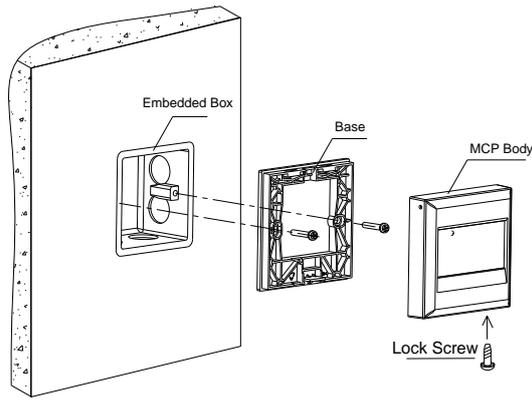

Fig. 3
**Conduit Embedded:** First install the base onto the back box, then connect the MCP body and the base followed instructions above, as shown in Fig. 3.